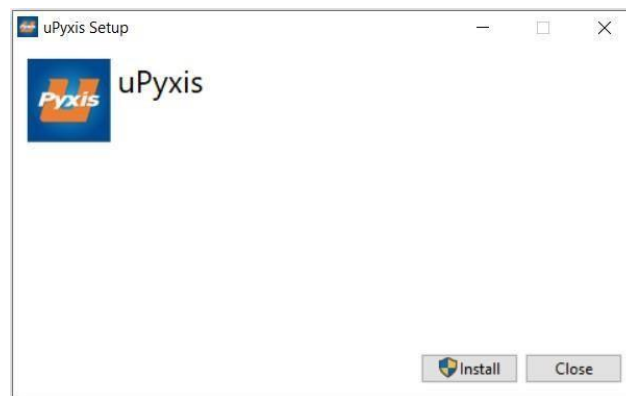

Figure 10. uPyxis® Desktop App installation
3. On uPyxis® Desktop App, click Device → **Connect via USB-Bluetooth** (Figure 10).
4. If the connection is successful, the ST-774 and its Serial Number (SN) will be displayed in the left pane of the uPyxis® window. ***NOTE*** After the sensor and Bluetooth is powered up, it may take up to 10 seconds for the adapter to establish the wireless signal for communication.